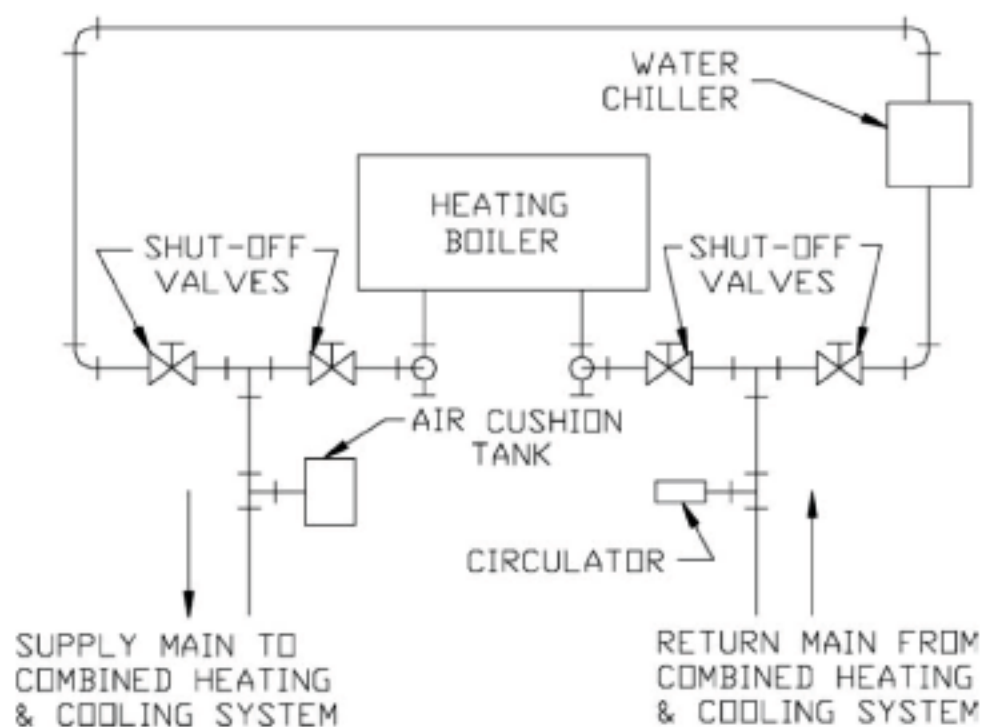

Figure 8.11: Chiller Piping
- 2) Piping with a Chiller - If the boiler is used in conjunction with a chiller, pipe the boiler and chiller in parallel as shown in Figure 8.11. Use isolation valves to prevent chilled water from entering the boiler.